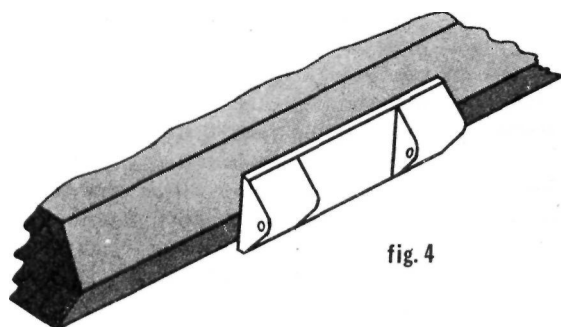
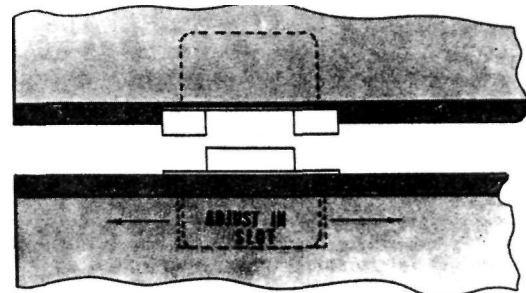

fig. 4
fig. 8
Step 3. Work on one hinged part only. Push the hinge into the slip up to its flange. (Fig. 4)
Step 7. After installing both halves, take the opposite surface to be hinged and insert the other hinge halves as on Fig. 4. Check the position of these against the mating halves and adjust their fit by sliding the hinge in the knife slots. (Fig. 8)